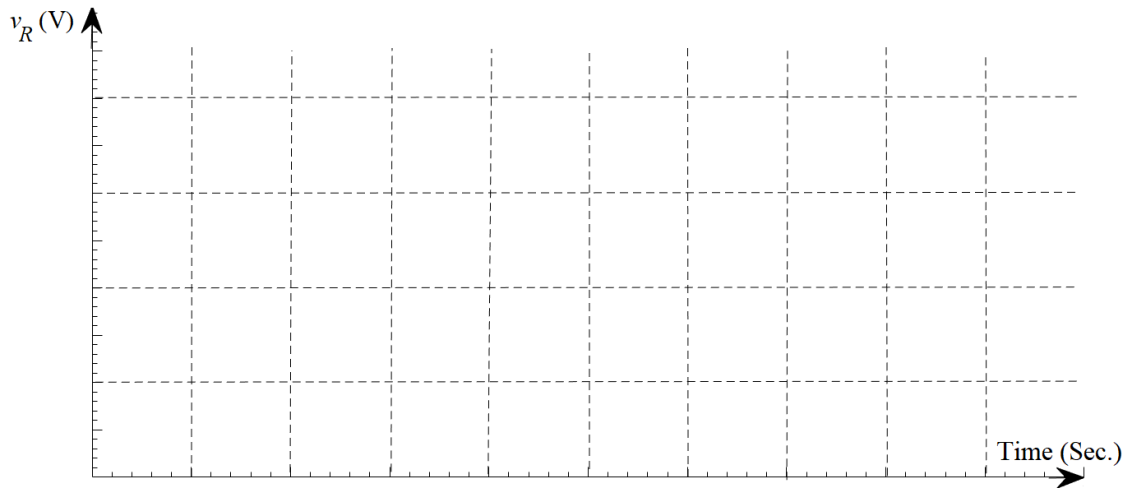

Figure 4: Input voltage, output voltage, loop current and resistor voltage of a series RC circuit.
3. Display simultaneously voltage $v_{in}(t)$ across the function generator (on CH 1) and $v_o(t)$ across the capacitor C (on CH 2). Sketch the two measured waveforms $v_{in}(t)$ and $v_o(t)$, also calculate, sketch and label the waveforms, $v_R(t)$ and $i(t)$ on the graphs given in **Figure. 4**.